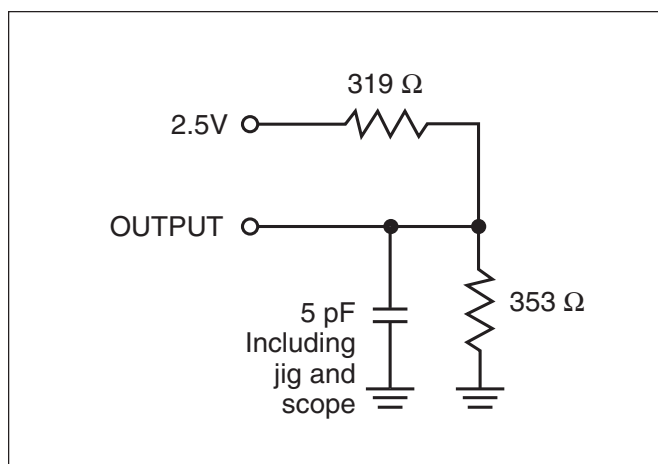

Figure 1b.
2. Tested with the loading specified in Figure 1b. Transition is measured ± 500 mV from steady-state voltage. Not 100% tested.